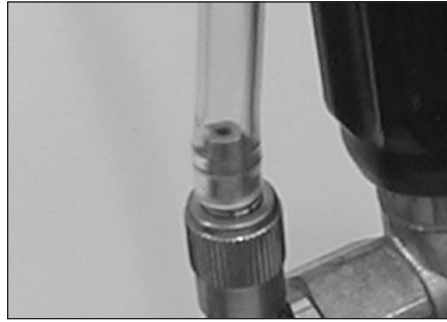

Figure 2 - Attach suction tube to barb fitting
2. Slide clear plastic detergent hose onto brass hose barb (See Figure 2).